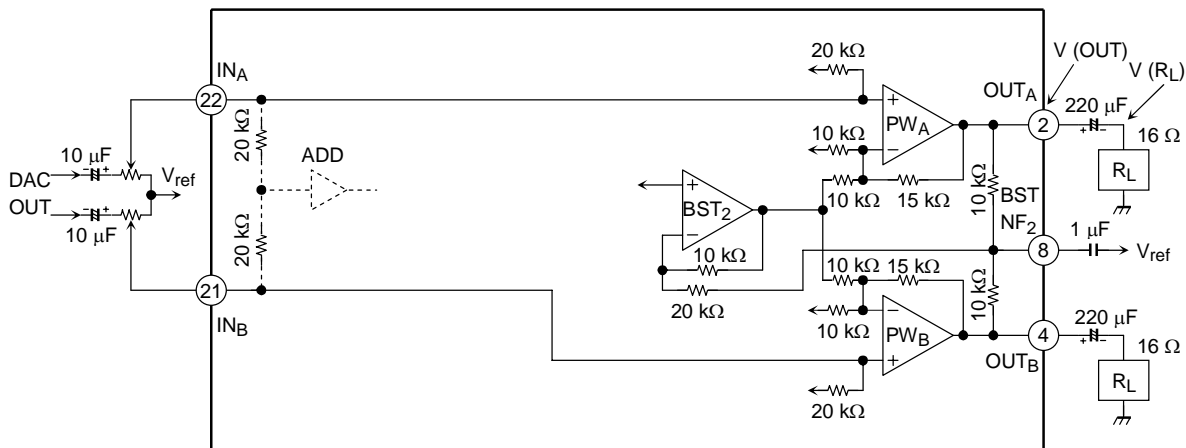
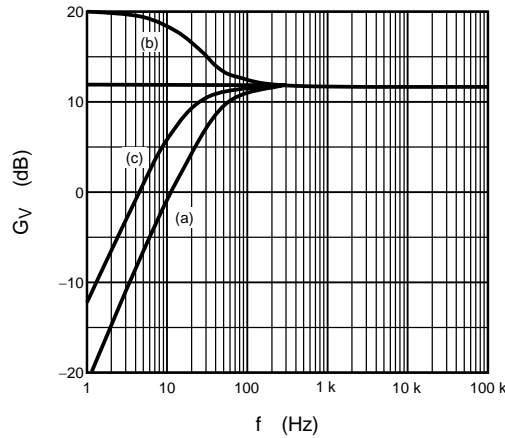

Figure 3 Low-Pass Compensation System Diagram
Figure 4 Power Amplifier Frequency Characteristics
Fig.3 shows the low-pass system diagram, and Fig.4 shows the frequency characteristics at each point. In Fig.4, (a) represents the status lost by the low-pass as a result of the high-pass filter comprising the headphone load ($R_L = 16 \Omega$) and the output coupling condenser ($220 \mu\text{F}$) in the C-coupling system.
The low-pass component alone is extracted from the composite signal of PWA/PWB output, and that frequency signal is fed back to PWA/PWB once more via the inversion amplifier, thereby making it possible to increase the gain only of the low-pass component. The frequency characteristics of the power amplifier output V (OUT) in this state are shown in Fig.4 (b). In practice they are the frequency characteristics (c) viewed from load terminal V (RL), and the low-pass is compensated relative to the state in (a).